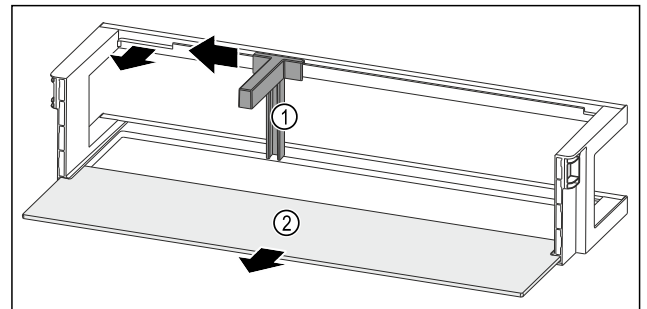

Fig. 97 Door rack with bottle holder and shelf
- ▶ Slide the bottle holder Fig. 97 (1) to the side as far as the recess.
- ▶ Remove the bottle holder Fig. 97 (1).
- ▶ Remove the shelf Fig. 97 (2).